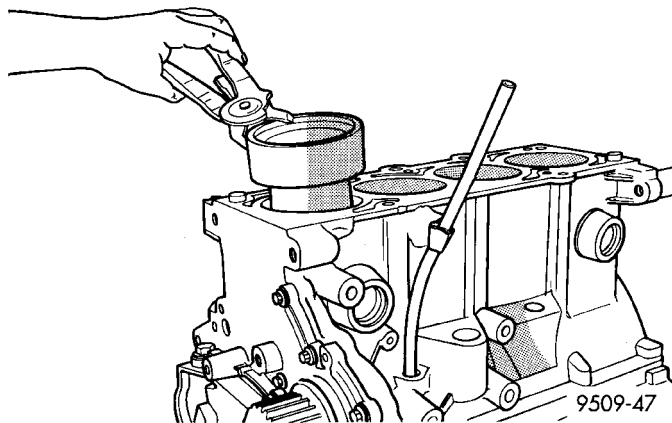

Fig. 84 Installing Piston
(3) Immerse the piston head and rings in clean engine oil, slide the ring compressor, over the piston (Fig. 84). **Be sure position of rings does not change during this operation .**